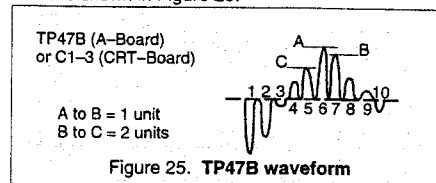

Figure 25. TP47B waveform
1. In the Serviceman Mode for making electronic adjustments, select DAC Sub-Tint Adjustment (B1). Adjust until the waveform measured is as the one shown in Figure 25.